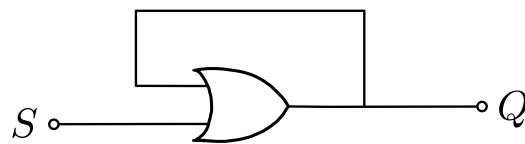

Figure 3
- (a). Figure 3 shows an OR gate with feedback. Initially the output is zero and  $S$  is zero. A short duration pulse is applied to  $S$ . Draw a timing diagram of how the output changes in response.